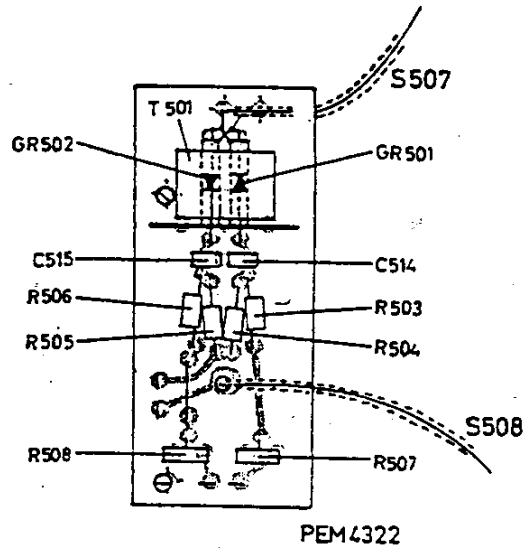

Fig. V-16. Printed wiring board, video-modulator
E. MODULATOR (see Fig. V-16)
2. Adjust the d.c. current in the modulator to reactive and active balance (see Fig. V-13) by means of R507 and R508 (see Fig. V-16).